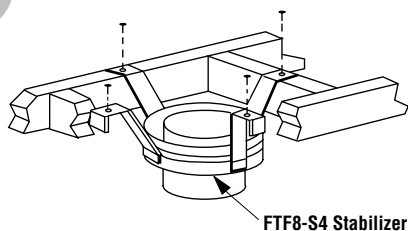

Figure 29
Install the Model FTF10-S4 stabilizer by fitting inner section down into respective section of proceeding flue pipe and locking outer stabilizer section into place over the outer chimney pipe. Position for proper clearance through framed opening and nail straps securely (under tension in "shear") into place on framing. Use 8d nails. Attach successive lengths of chimney pipe directly to stabilizer using same techniques as described in Step 4 (Figure 29).
Step 9. FireCraft locking bands, Model FLB, may be required if the chimney extends too high above the roof flashing. As a general rule, if the chimney extends more than 6' above the roof flashing, the use of locking bands is advisable to strengthen the chimney assembly. Align the locking band at the chimney joint. Locking bands wrap around pipe joints equally covering the joints of both pipe sections. Use the nut provided and TIGHTEN snugly. Do not over-tighten as this might damage the chimney section (refer to Figure 29).
Step 1. Use Offset Chart to determine amount of horizontal offset (A) and height (B) for various chimney section assemblies.
Step 3. Use Elevation Chart as job estimator only. Add necessary firestop spacers and stabilizers as required. Firestop spacers must be used as shown in *Figures 23 and 24* and stabilizers as shown in *Figure 29*.